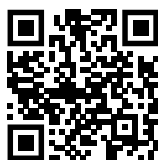

Fig. 147
- ▶ Aprire la Liebherr SmartMonitoring Dashboard. (vedere Fig. 147)